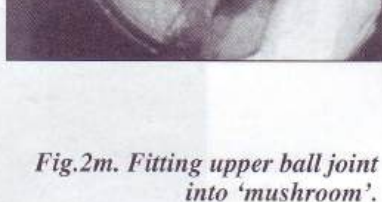

Fig.2m. Fitting upper ball joint into 'mushroom'.
12. Fit upper ball joint into 'mushroom' (fig.2m).